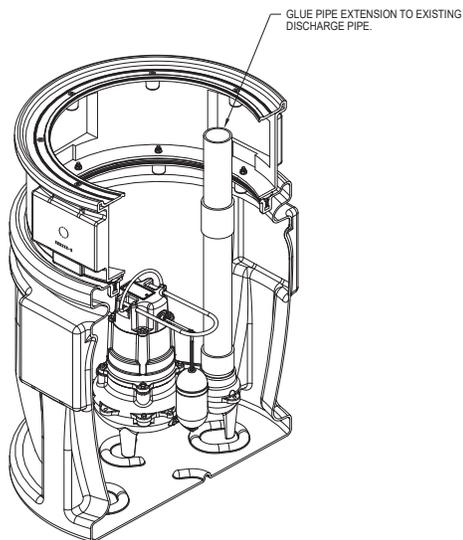

FIGURE 5
7. Glue pipe extension to existing discharge pipe. (Figure 5)